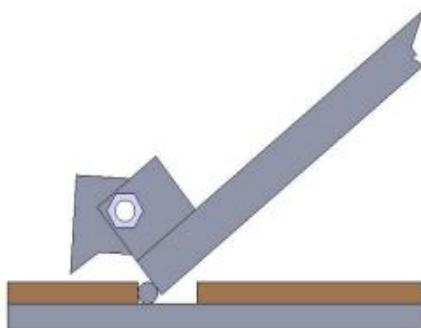
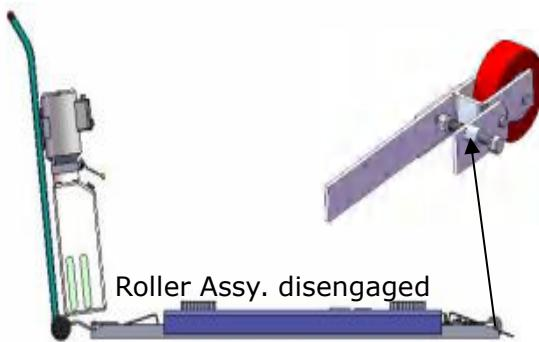

Fig.14
Fig. 16
2. The roller must be disengage when lifting vehicle (**See Fig.16**). To raise and lock the lift: Press the button up till the lift is raised to the required height and the locks are in engaged (**See Fig.14**), then push release handle of the power unit, the lift would be locked.
4. Move lift: Pull up roller bracket, lock two roller to the lift with roller shaft. (**See Fig. 16& 17**). Moving the lift by the power unit stand.